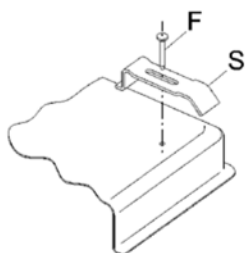

FIG. 7
- Fix the hooks in the relative accommodations of the body with the screws "F" (see fig. 7 - 9).